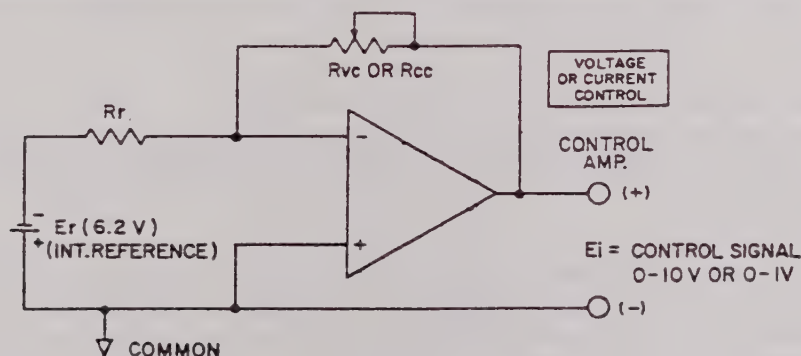

FIG. 4-4 GENERATION OF THE INTERNAL CONTROL SIGNAL FOR THE ATE VOLTAGE AND CURRENT CHANNELS.
The internal feedback components in the voltage, as well as in the current control channel of the ATE are selected for each ATE model such that a 0 to 10 volt d-c signal, applied to the VOLTAGE COMPARISON AMPL. or 0-1 volt to the CURRENT COMPARISON AMPL. control the full output range for each ATE model. For local (front panel) control of the ATE output quantities a CONTROL AMPLIFIER is used in a similar manner for the voltage as well as for the current channel. (See FIG. 4-4) to produce the required 0-10V or 0-1V control signal.
- 4-9 To produce the internal 0–10V or 0–1V control signals (E_i), an operational amplifier is used in the inverting configuration as shown in FIG. 4-4. The output equation for the circuit is $E_i = E_r (R_{VC}/R_f)$.